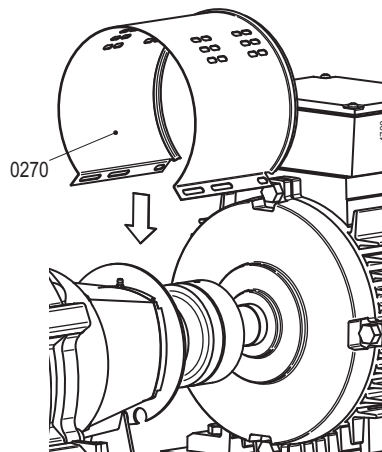

Figure 12: Fitting the jacket at motor side.
- 2 Remove both jackets (0270). See figure 12.